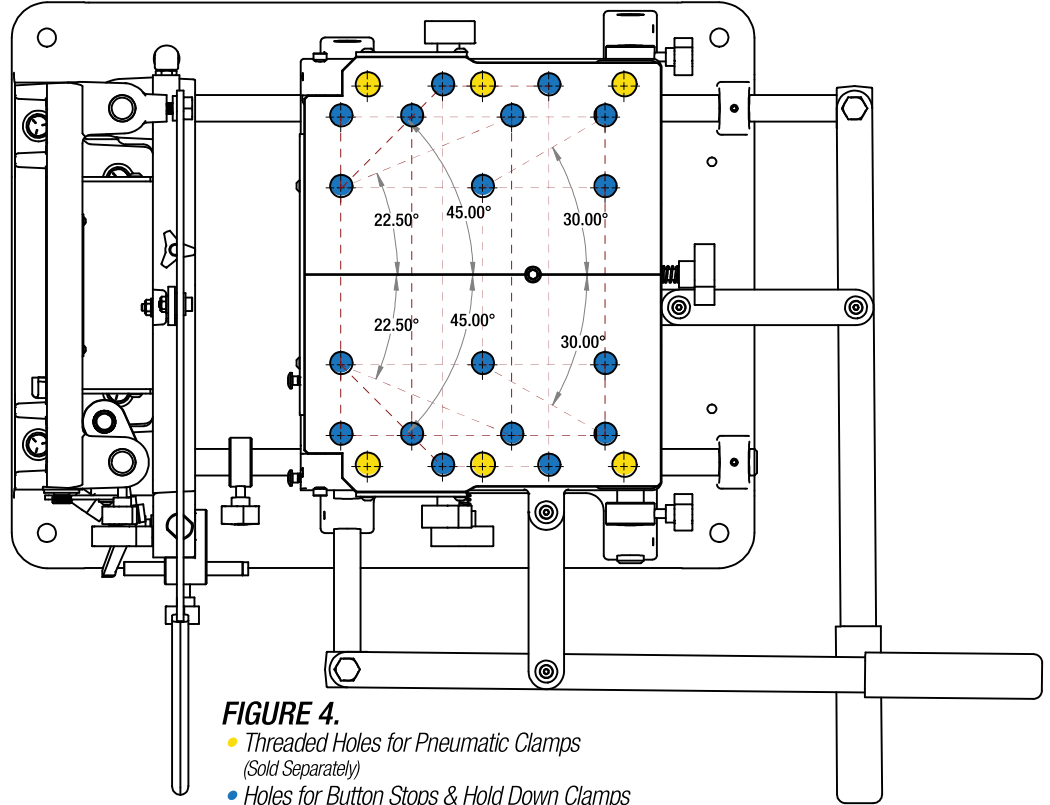

FIGURE 4.
The Multi-Router comes with (4) Button Stops. These Button Stops can be arranged in the holes of the Horizontal Table to achieve parallel, perpendicular, and some common angles. **FIGURE 4.**